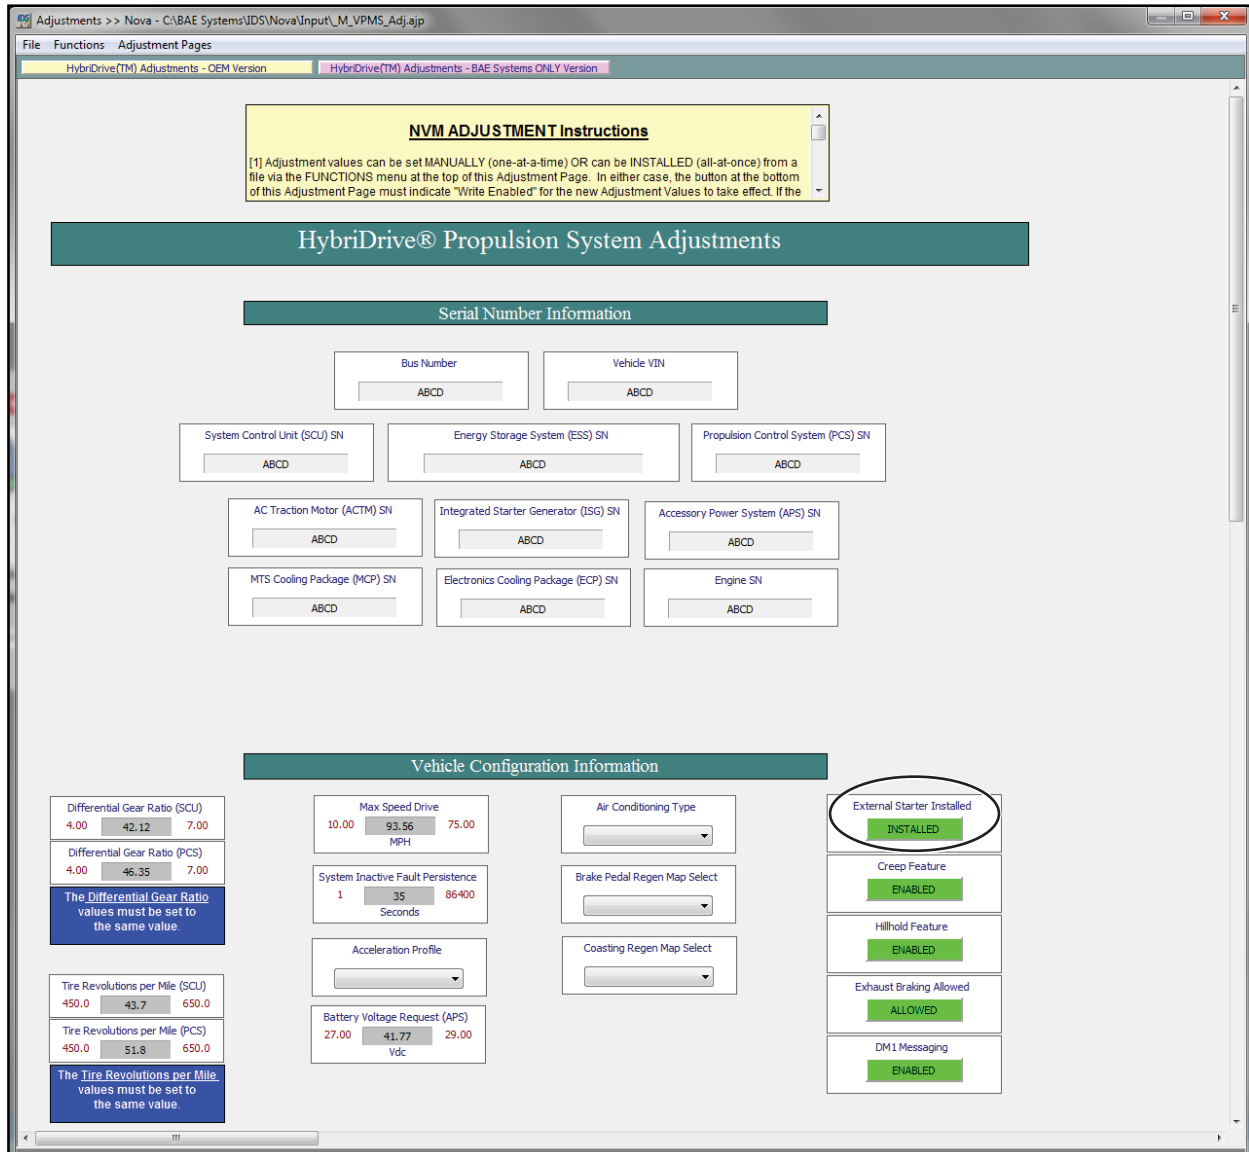

Figure 3 - Status Verification
- The starter status is visible in this field. See Figure 3. If the status is "Not installed", the procedure is finished. If the status is "Installed" proceed to the next steps.